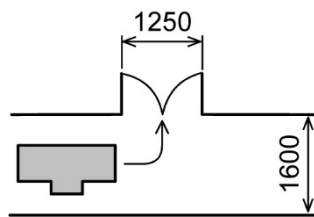

Figure 7-2
- (b) If turning the unit with the gantry facing the outside, the corridor width should be 1600 mm or more and the entrance width should be 1250 mm. (Figure 7-2)